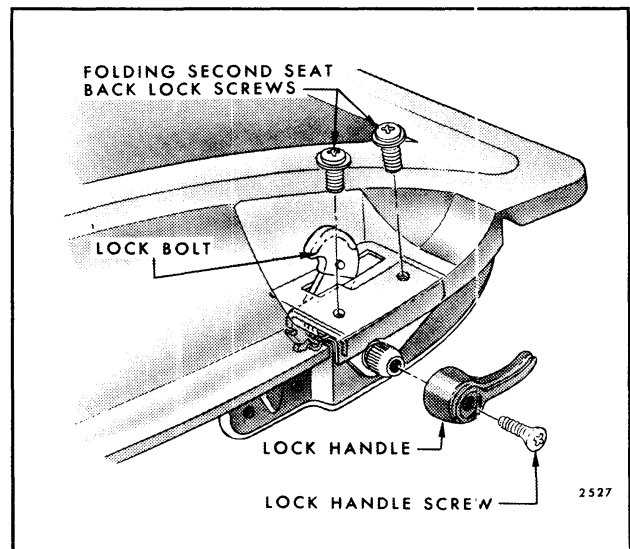

Fig. 9-81-Folding Second Seat Back Lock Installation - All "A and B" Station Wagons
2. Remove seat back lock handle attaching screw and remove lock handle (Fig. 9-81).
3. Remove seat back lock retainer attaching screws (Fig. 9-74) and remove seat back lock retainer and lock from seat back panel (Fig. 9-81).